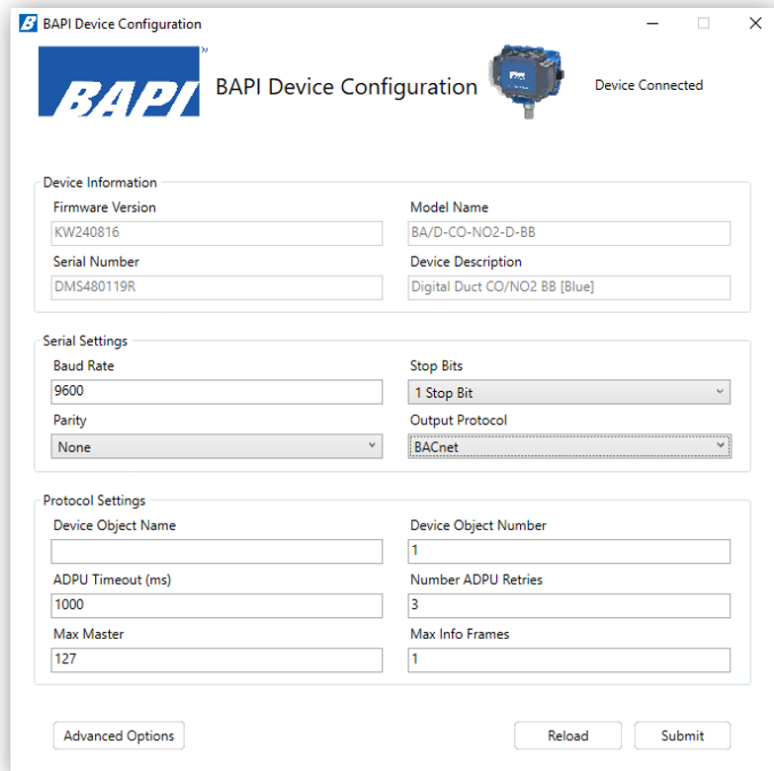

Fig. 2: Device Utility Information Window
4. Connect a USB cable between your computer and the USB-C connector on your sensor. The data for the Serial Settings and Firmware will populate the Device Utility Information Window as shown in Fig 2.
6. Edit the values in the Serial Settings section of the Device Utility Information Window (Fig 2) for your application. If you select BACnet as the Output Protocol, then the Protocol Settings section below the Serial Settings will be shown. The Protocol Settings section only shows if BACnet is selected as the Output Protocol.